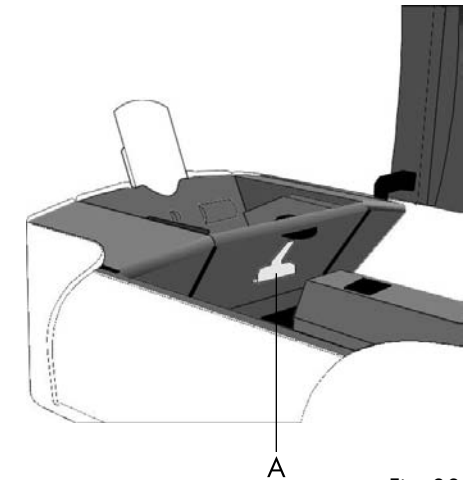

Fig. 33
- open the hopper by pulling release handle A of the hopper upwards (see Fig. 33 and Fig. 34).